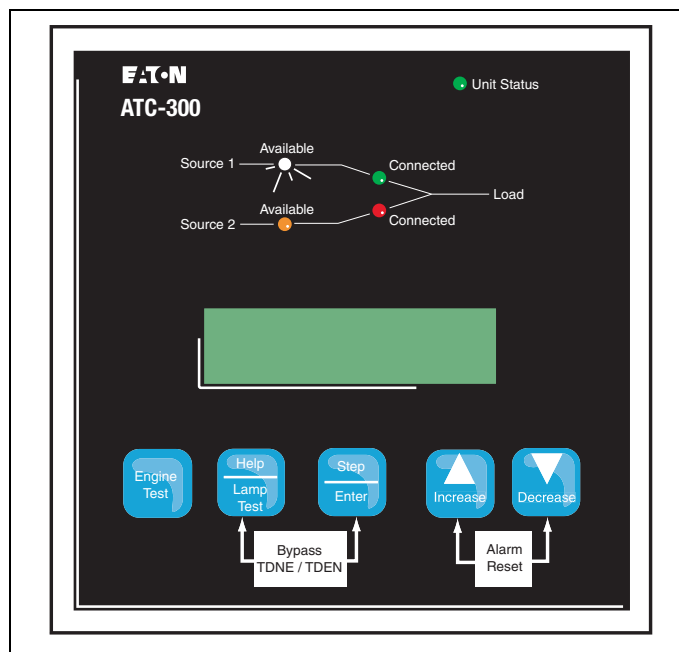

Figure 25. ATC-300+ Logic (Utility Supplying Load).
Step 5: Apply Utility (Source 1) power. If the switch is properly applied for the system voltage ordered, the display should work and the Source 1 Available white LED should light (Figure 25). Using a voltmeter, check for proper system voltage on Source 1 and load terminals. Check all phases on a 3-phase switch. Voltage measurements should be taken phase to phase and phase to neutral.